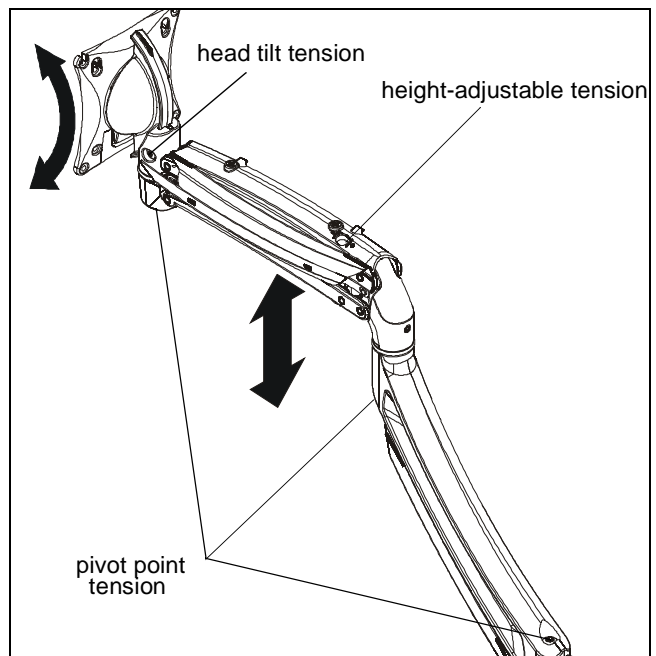

Figure 12
1. Adjust head tilt to desired tilt position. (See Figure 12)
2. Adjust head tilt tension screw to change the adjustment tension. (See Figure 12)
1. Adjust height to desired level. (See Figure 12)
3. Use 1/8" hex key (J) to adjust height-adjustable tension screw to change adjustment tension. (See Figure 12)
1. Adjust pivot position as desired. (See Figure 12)
2. Use 3/16" hex key (H) to adjust pivot point tension screws to change pivot adjustment tension. (See Figure 12)